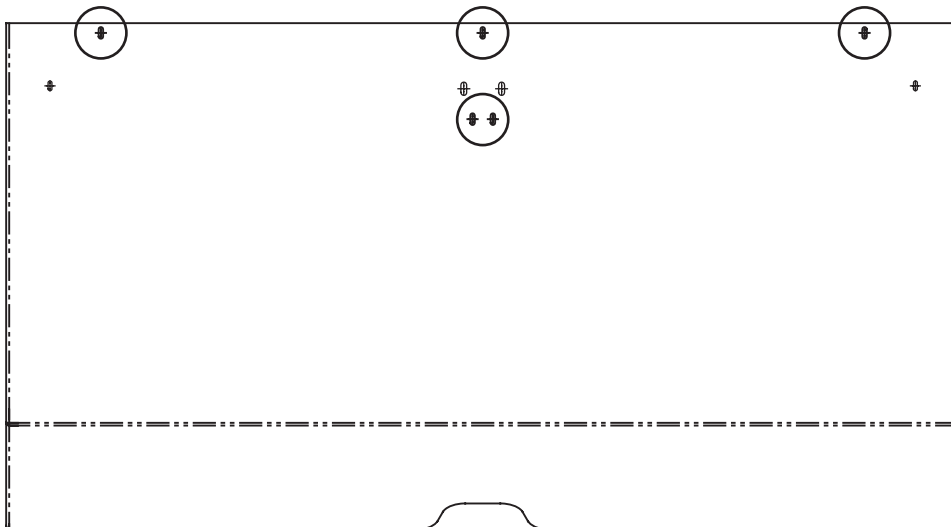
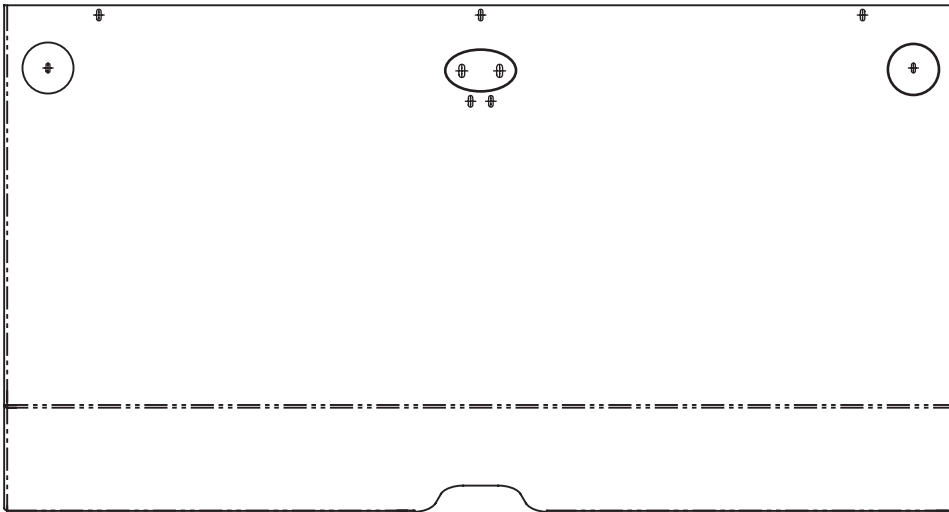

Figure 6
Figure 7
15. Install the correct bolts across the top of weldment cover piece. The number of bolts and specific holes used will be based on if the CNG system is McNeilus or Agility. Figure 6 (McNeilus) and Figure 7 (Agility) detail the specific holes for each system.